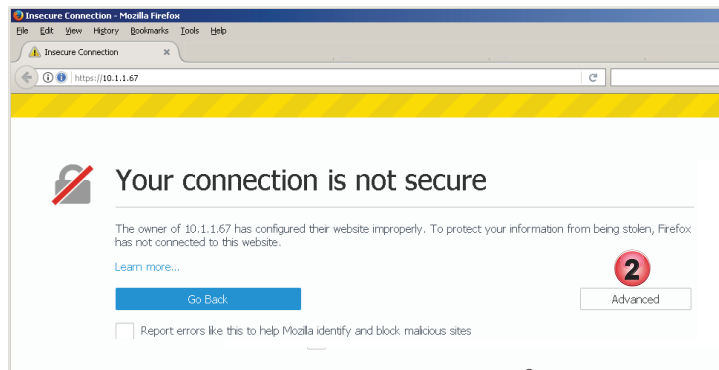

Figure 1-3: Warning For Firefox®
2. If this is the first time you have connected to this unit with this Management Computer, you may get a browser security warning, see Figure 1-3, however, depending on the browser you used, your message may look different than illustrated here. This warning is due to the UCrypt Device having a self signed security certificate. It is not a security threat but your browser identifies it as such due to the certificate being self signed. Click through to accept the warning. You may later add your own security certificate during configuration.